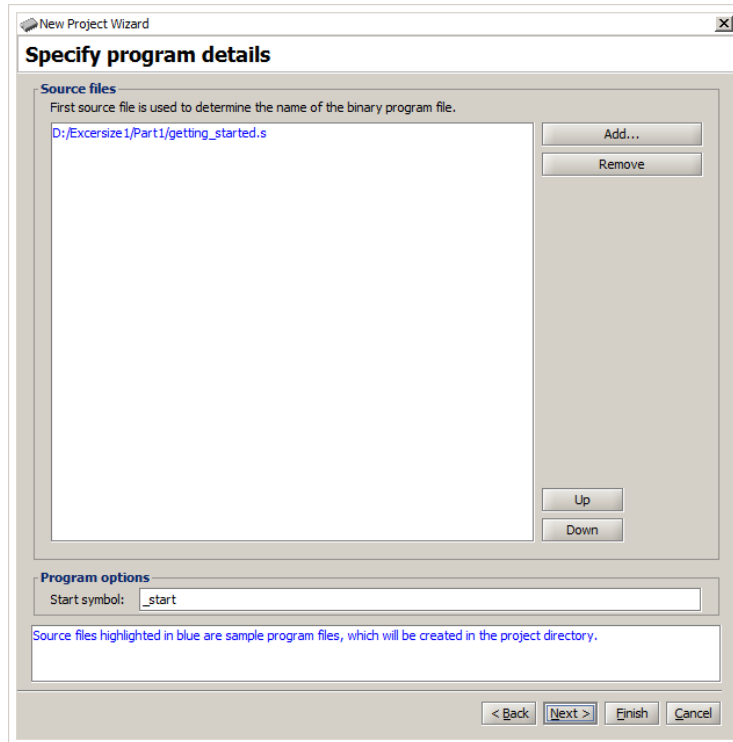
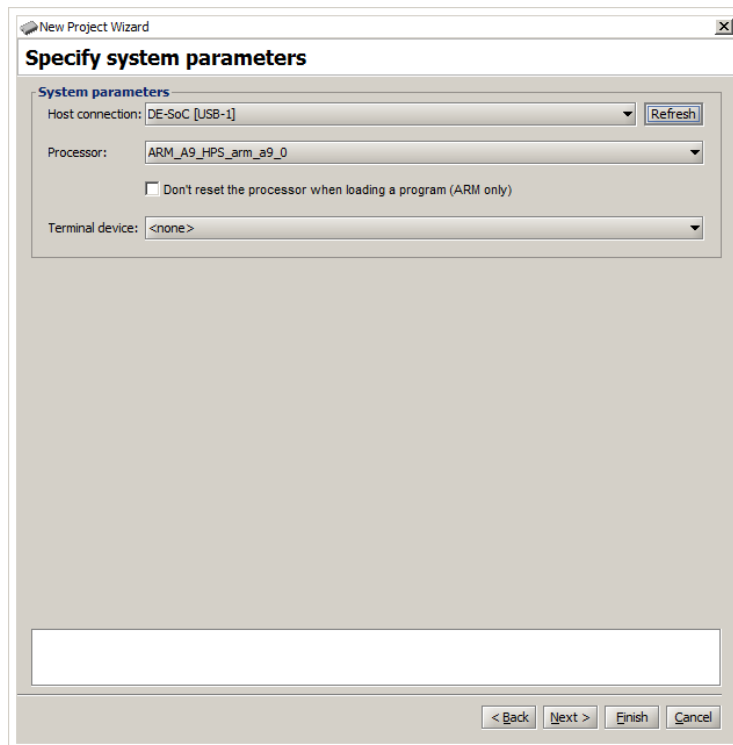
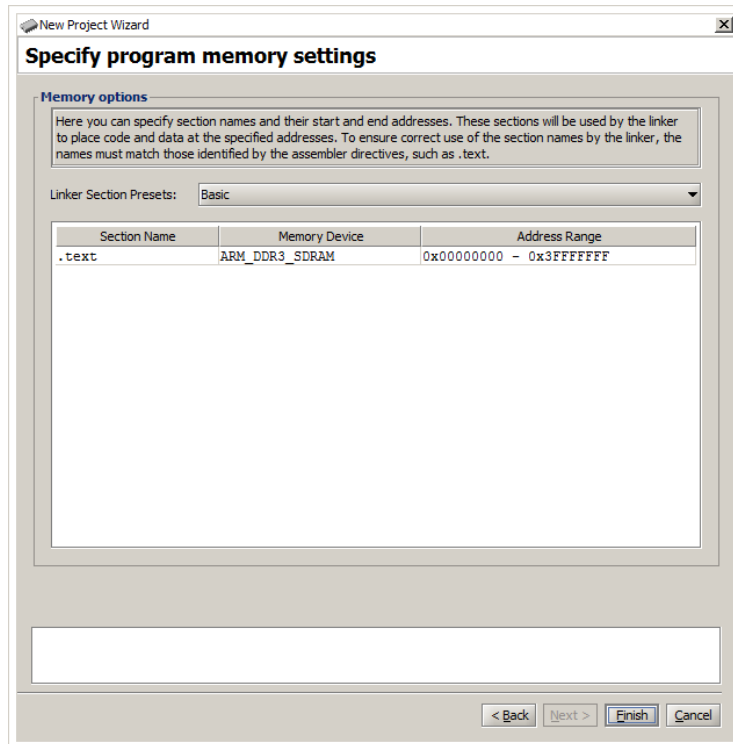

Figure 5: Source files used by the application program.
Figure 6: Specify the system parameters.
Figure 7: Specify the program memory settings.
5. The window in Figure 5 is used to specify the source file(s) that contain the application program(s). Since we have selected the *Getting Started* program, the window indicates the source code file for this
6. The window in Figure 6 indicates some system parameters. Note that the figure indicates that the *DE-SoC [USB-1]* cable is selected to provide the connection between the DE0-Nano-SoC board and the host computer. This is name assigned to the Altera USB-Blaster connection between the computer and the board. Click **Next**.
7. The window in Figure 7 displays the names of Assembly sections that will be used for the program, and allows the user to select a target memory location for each section. In this case only the *.text* section, which corresponds to the program code (and data), is defined. As shown in the figure, the *.text* section is targeted to the DDR3 memory in the DE0-Nano-SoC Computer, starting at address 0. Click **Finish** to complete the specification of the new project.
2. Upon reaching the window in Figure 5, you have to specify the source code file for your program. Click **Add** and in the pop-up box that appears indicate the desired file name, *part2.s*. Click **Next** to get to the window in Figure 6. Again click **Next** to get to the window in Figure 7. Notice that the **DDR3_SDRAM** is selected as the memory device. Your program will be loaded starting at address 0 in this memory. Click **Finish**.